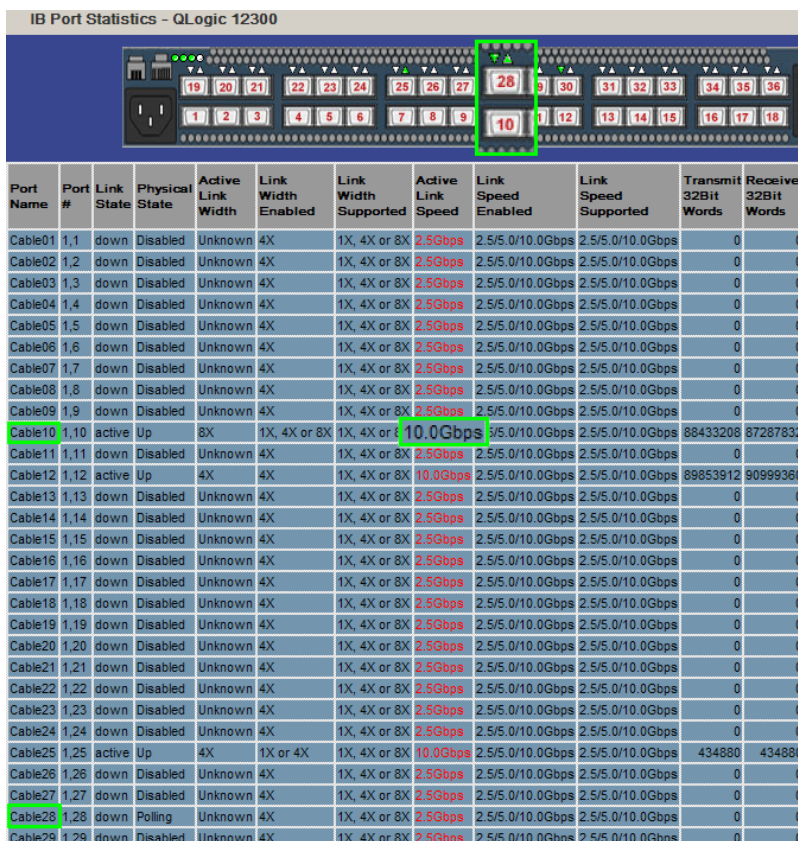

Figure 1-51. 8X Port Statistics
6. From the Chassis Viewer main menu, click on **Port Stats** then **IB Port Stats** to display the IB Port Statistics screen. The 8X port (for DUO of cable ports 10 and 28) is displayed (see Figure 1-51).